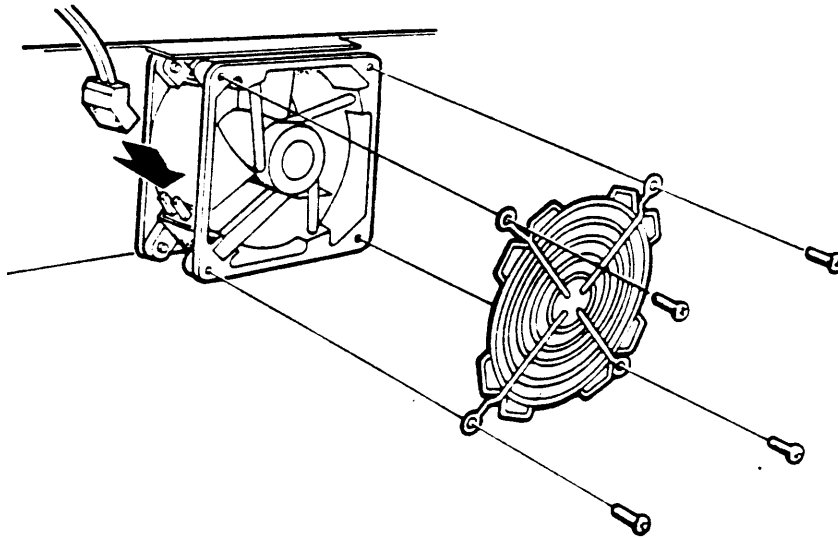

Figure 8-30 Connect Front Fan Power Cable and Fan Guard
1. Remove the power cable and fan guard (if present) from the intake side of the old fan and fit them to the replacement fan (Figure 8-30).
CAUTION: The front fan power cable is not keyed. Observe the polarity of the connector. The curve of the connector must match the curve of the fan housing as shown in Figure 8-30.